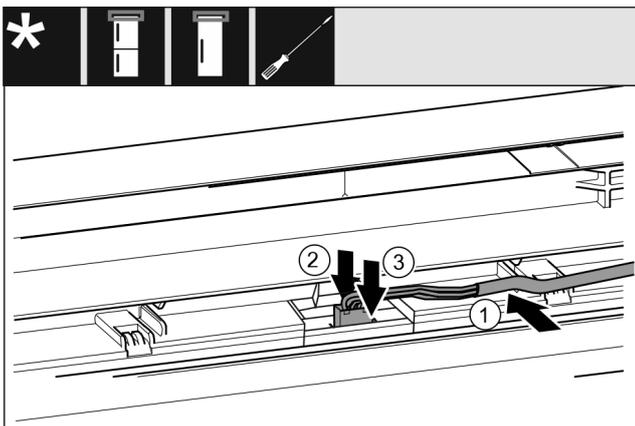

Fig. 33
- ▶ Insert the grey cable into the guide in the top door. Fig. 33 (1)
- ▶ Push the latching tab backwards. Fig. 33 (2)
- ▶ Engage the plug. Fig. 33 (3)